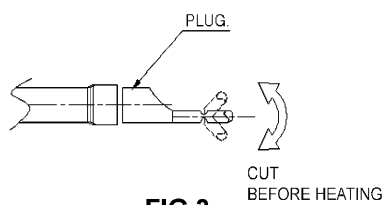

FIG 3
- Cut the end of the plug before heating the pipe to remove the plug FIG.3